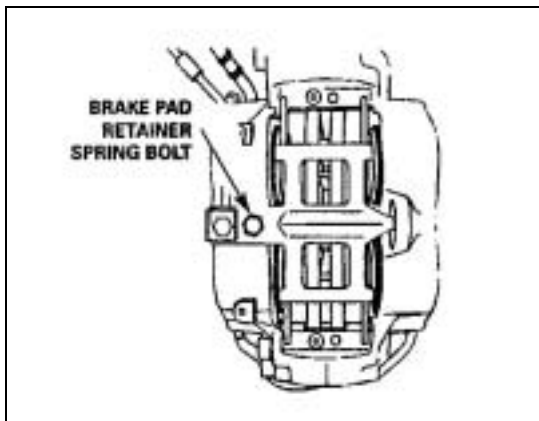

Figure 3
4. Remove the pad retainer spring bolt. **Figure 3.**